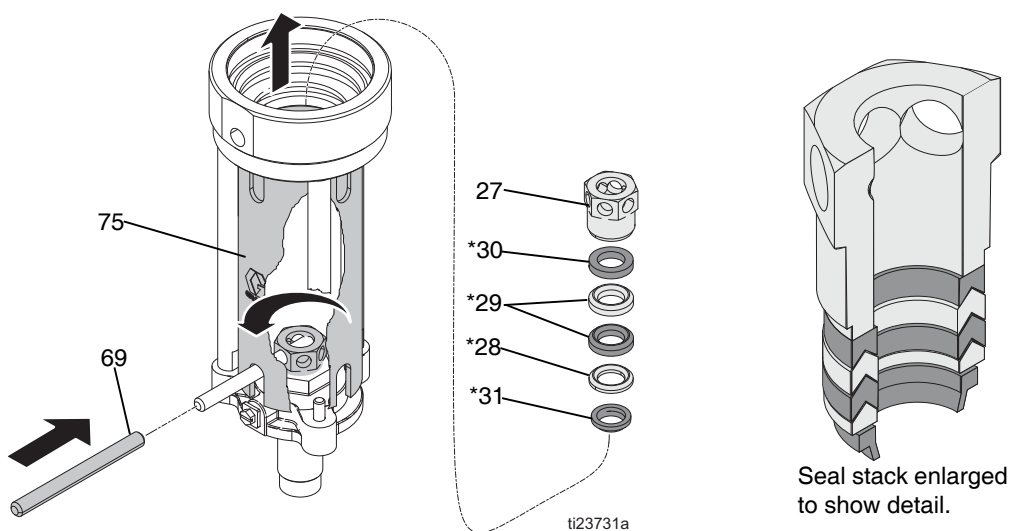

FIG. 25
13. Remove hex nut (27) from mounting flange (26). Remove female gland (30*), 2 PTFE packings (29*), male gland (28*) and wiper (31*). Inspect all parts for damage. See FIG. 25.
14. Unscrew three fasteners (60) to remove the flange (26) and tie-rods (25). Slide the guard (75) out. Unscrew the tie rods (25) using the wrench flats at the bottom.